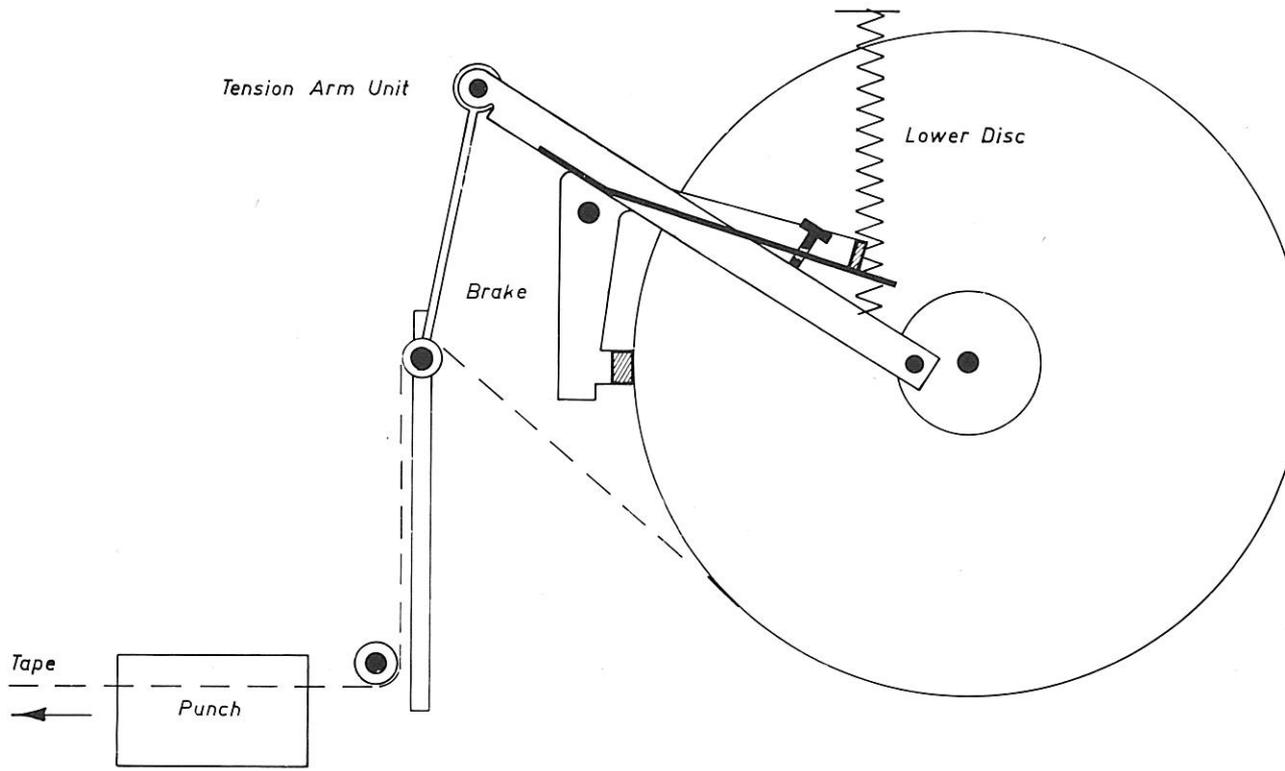

Fig.5.2 Fig. 5.2a Slack Tape (Disc Braked)
5.1.3 Tape supply and take-up (See Fig. 5.2)